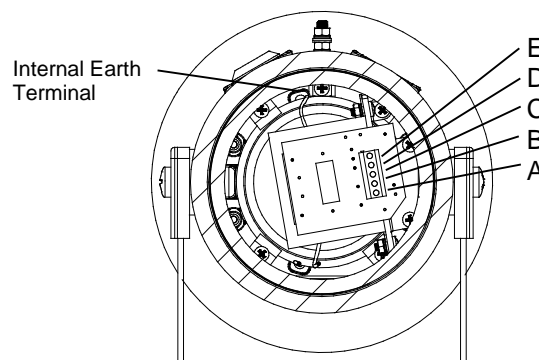
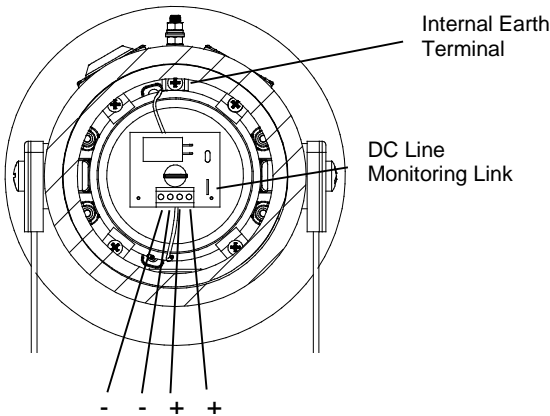

Fig. 3 Line in Terminals
Fig. 4 Low Impedance Terminals
- Fit an M20x1.5 suitably certified cable gland or ½" NPT conduit into the corresponding entry in the enclosure and connect the field wiring to the appropriate loudspeaker terminals as shown in section 6 / Fig 3 (70V Line In) or section 7 / Fig 4 (Low Impedance) of this manual. The
D1xL2 and D1xL1 8 ohm and 16 ohm low impedance loudspeakers have dual input terminals on the PCB assembly for input and output wiring. A cable of up to 4.0mm² can be connected to each terminal. If DC line monitoring is used cut the link on the board (see Fig. 4).
Internal earth connections should be made to the internal Earth terminal (see Fig. 3 and 4. It should be fitted to the internal earth point using a ring crimp terminal to secure the earth conductor.
On low impedance units the end of line resistor used must have a minimum resistance value of 2k ohms and a minimum wattage of 0.5 watts or a minimum resistance value of 500 ohms and a minimum wattage of 2 watts. On the low impedance units care must be taken with the polarity of the monitoring voltage. If an end of line resistor is fitted to a unit the links on the printed circuit boards of all loudspeakers in the line must be cut for the dc blocking capacitors to be in circuit in order to dc monitor the line (see Fig 4).